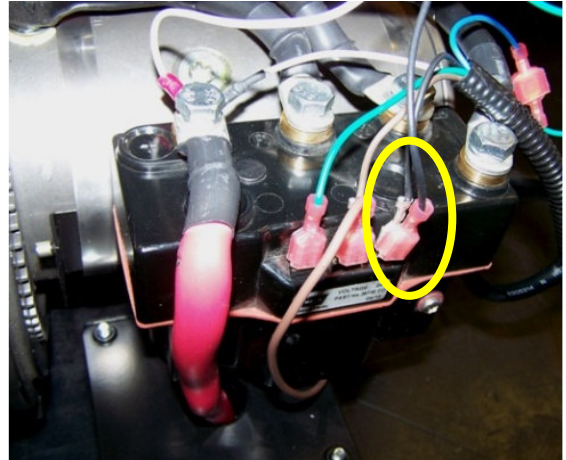

Figure 26
Step 24: Connect the black wire from the control-pack cover to the contactor terminal 3. (Figure 26)